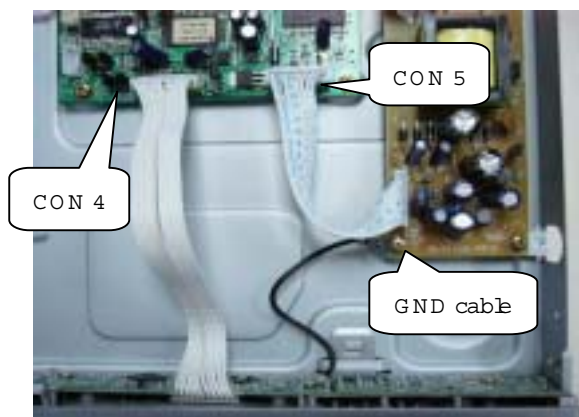

Figure 5
Step4:Disassembling Front Panel; disconnect the 2 connectors aiming in the figure then Release the snaps on the both sides of Front Panel and gently pull the Panel out from the set. (Figure5& 6)